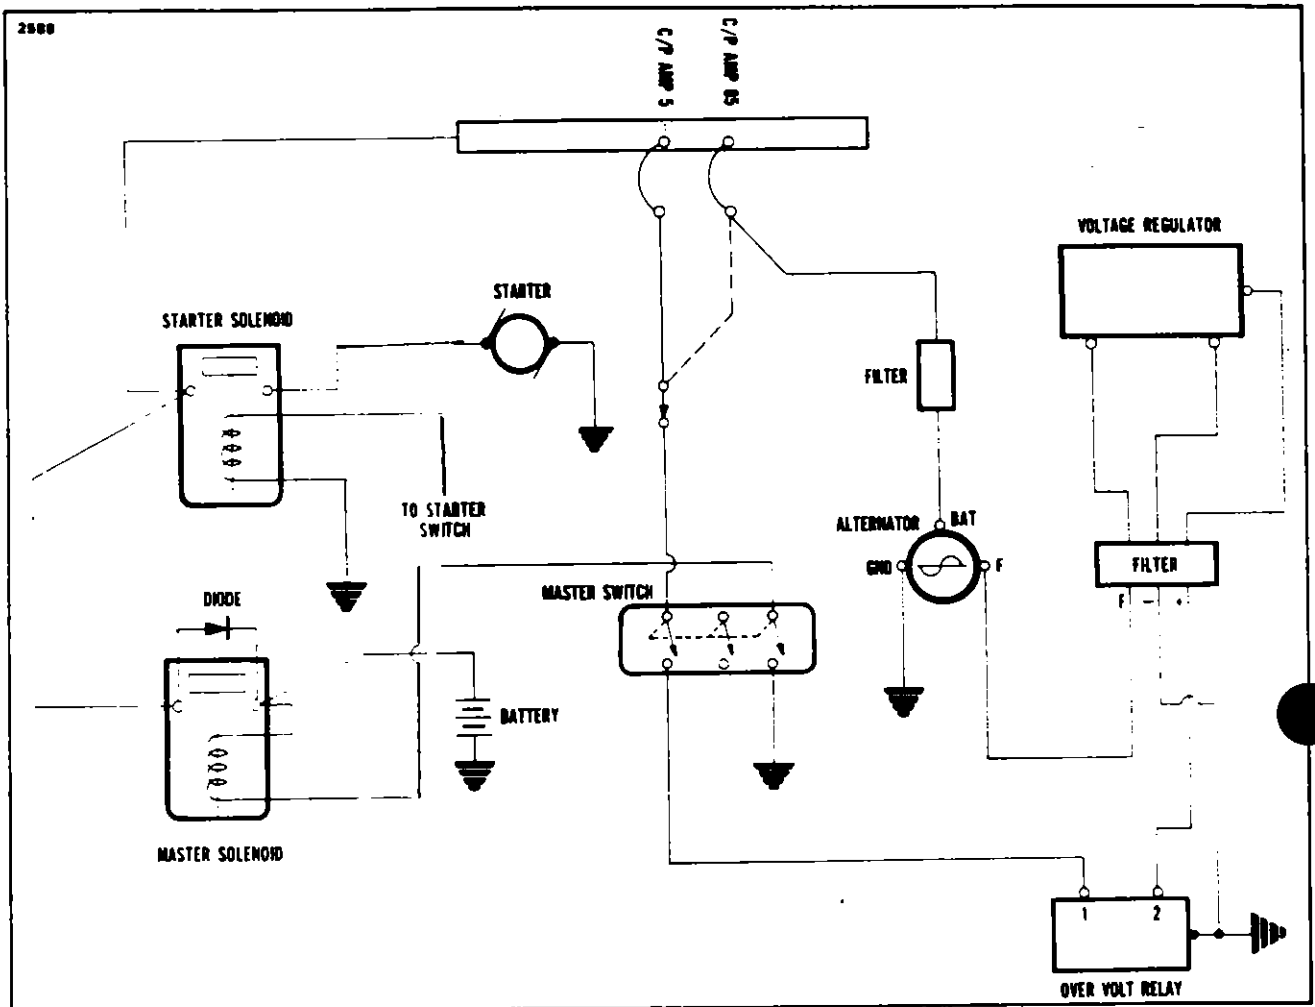

Figure 9-15. Alternator and Starter Wiring System
9-44. Checking Alternator System. The ammeter is equipped to check the electrical output-input of the battery. Should the alternator show no output on the ammeter, check the appropriate circuit breakers. If a further check of the ammeter shows no output from the alternator, check the alternator system. (Refer to Figure 9-15.)
- f. Should there be no indication of voltage, trace back through the output circuit until voltage is indicated. (Refer to Figure 9-15.) A component that allows no voltage to pass through it should be replaced.